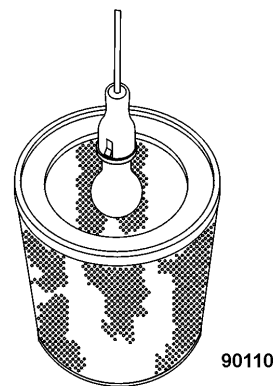

FIGURE 5-3. INSPECTING FILTER ELEMENT
4. After cleaning, inspect the element thoroughly for the slightest ruptures and damaged gaskets. A good method for detecting paper ruptures is to place a light inside the filter element, as shown in Figure 5-3, and inspect the outer surface of the filter element. If holes or ruptures are found, do not reuse the element. Discard and replace with a new element.
4. When cleaning is complete, inspect the filter element as shown in Figure 5-3. If holes or ruptures are noted, discard the element and replace with a new element.